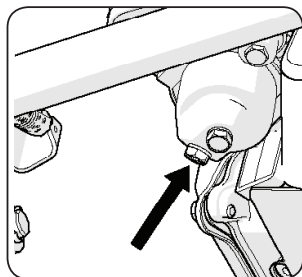

Fig 26
- A drain plug can be found underneath the carburettor float bowl. (**Fig. 26**)